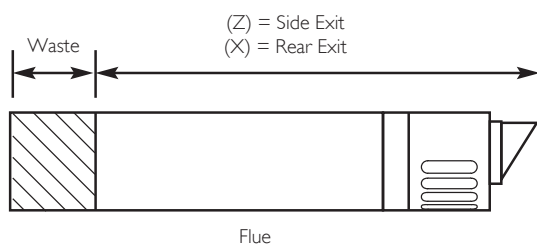

Fig. 27
3. Take the flue and mark off (X) from the terminal end as indicated in the diagram (Fig. 27).
5. Take the flue and mark off (Z) from the terminal end as indicated (Fig. 27).